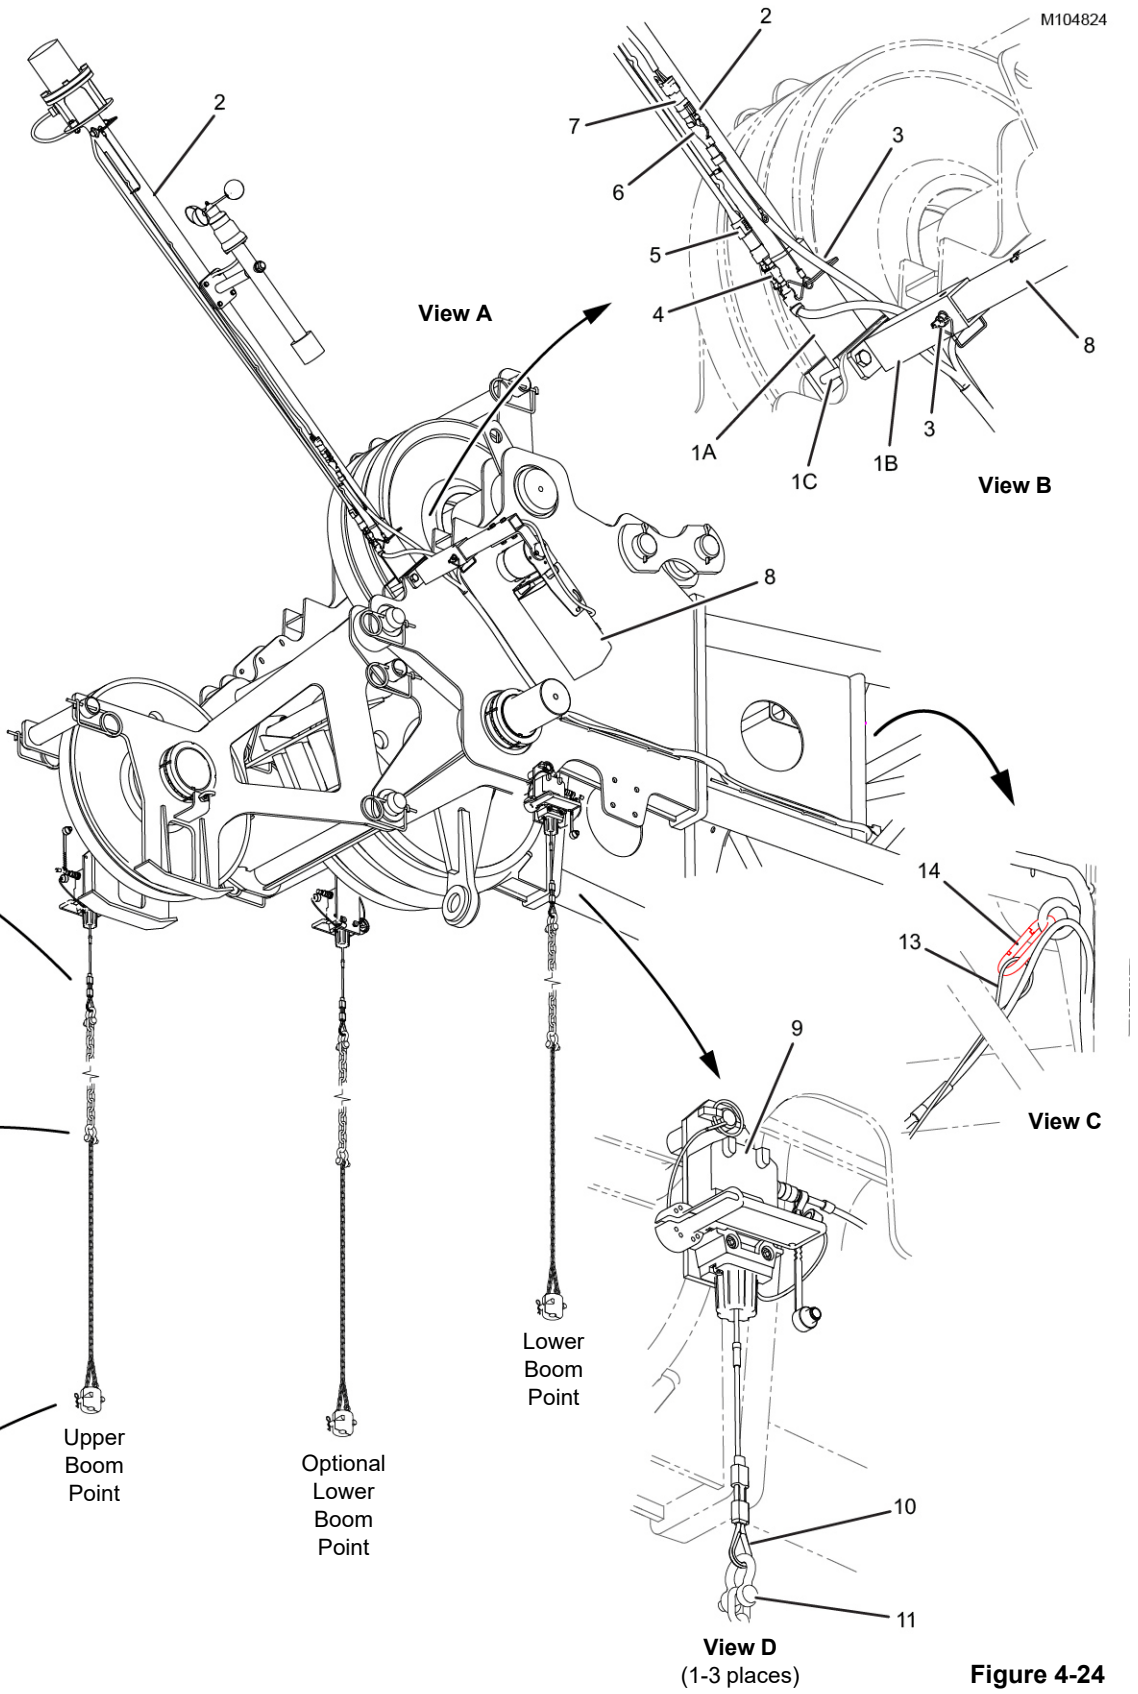

Figure 4-24
4. Unlock the cable reel (2, View C) and pay out the required length of boom extension cable (1).
5. Route the boom extension cable (1) up the boom, remove the dust cap (1A), and connect the boom extension cable to the boom top connector (3, View A).
6. Connect the strain relief on the boom extension cable (1) to the carabiner in the boom top (see View C, Figure 4-24 on page 4-38).
7. Connect the other end of the boom extension cable (1, View C) to the boom connector (4) and lock the cable reel in position with the locking lever (2A).
Legend for Figure 4-24
See Figure 4-24.
1. Remove the boom top camera (8, View A, Figure 4-24) from storage in the parts box.
2. Assemble the camera (8, View B, Figure 4-24) to the bracket (1B) and install the safety pin (3).
9. Connect the strain relief (13, View C, Figure 4-24) on the camera extension cable to the carabiner (14) in the boom top.
Make sure the anemometer is hanging correctly (see View G, Figure 4-24 on page 4-38).
Make sure the electric cable from the anemometer is not wrapped around the support bracket (see View F, Figure 4-24 on page 4-38).